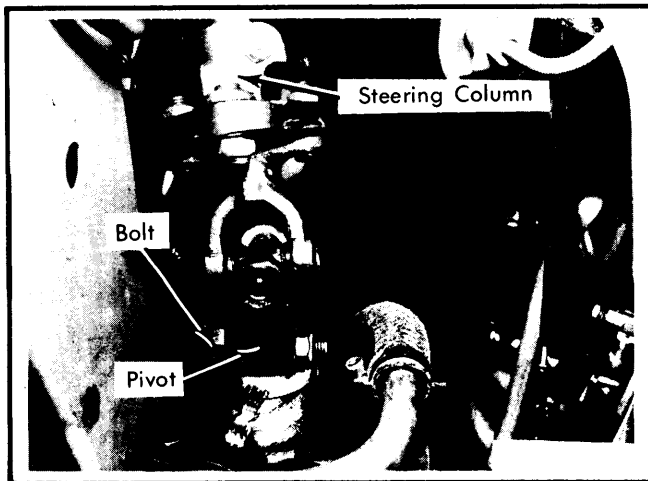

Fig. 7 Removing Steering Shaft Flange
2) Remove cotter pin and nut from tie rod end. Press off tie rod from steering arm. Remove bolt from locking groove of steering shaft (See Fig. 7). Push up pivot flange with steering column. Detach steering gear from front axle carrier.